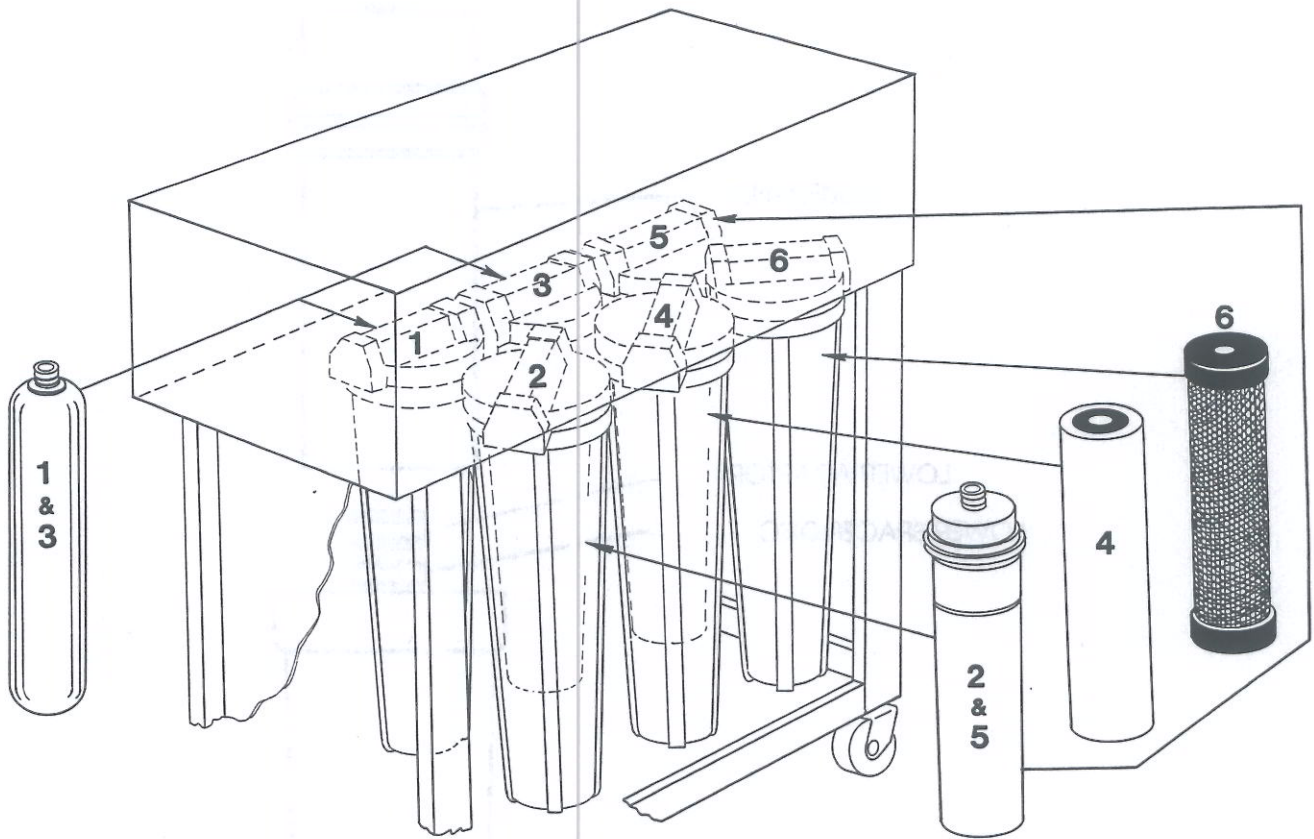

Figure 10
- (1) Install prefilter in bowl. (See Figure 10)
- (2) Install carbon/prefilter in middle bowl on right side of system. (See Figure 10)
- (3) Remove the tubing from the connector in the bottom of the bowl by pressing the gray collar back towards the connector and pulling the tubing straight out. (See Tubing Installation.)
- (4) With the Spanner Wrench supplied, remove the first bowl on the right side of the unit designated for the RO membrane and the last bowl on the left designated for the ultrafilter (Models 90902 and 90902-01). Figure 10
- (5) Center the lower spacer disk over the support post in the bottom of the bowl. Centering a long rod and dropping the disk over it will ease the installation.
- (1) Figure 10 depicts the cartridge installation for ultrafiltered units. Models 90902 and 9090201.
- (2) The table below shows the schedule of cartridge installation corresponding to the numbers on Figure 10.